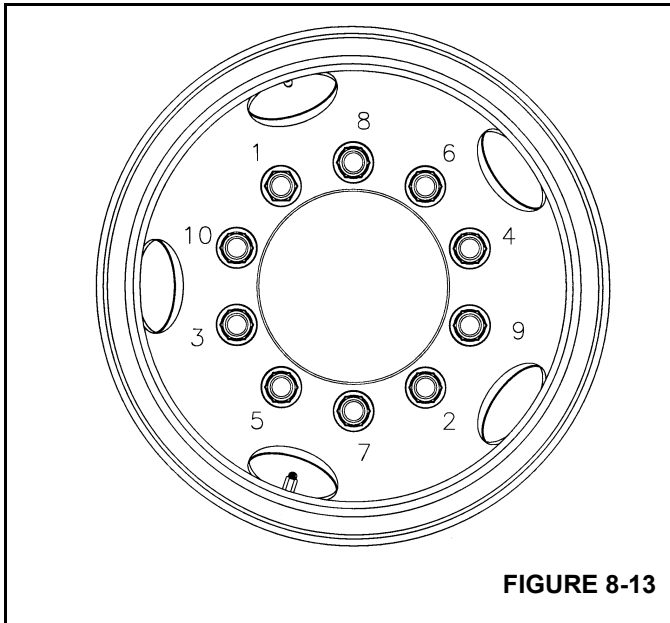

FIGURE 8-13
4. Tighten the lug nuts to a preliminary torque of 68 Nm (50 lb-ft) in the sequence as shown in Figure 8-13.
Torque the lug nuts 610 to 679 Nm (450 to 500 lb-ft) in the sequence as shown, (Figure 8-13). Retorque lug nuts 80 to 160 km (50 to 100 mi) after the wheels are removed and reinstalled. Check the torque every 804 km (500 mi) thereafter.